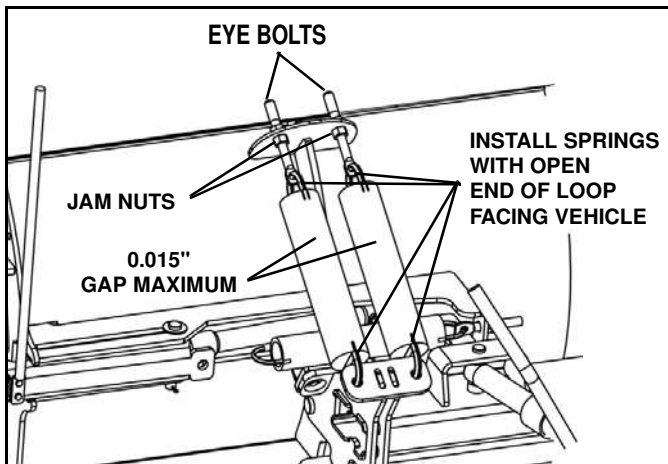

Figure 1-7
7. Rotate blade upward, and hook springs on to the swing frame spring eyelets: (See Figure 1-7).